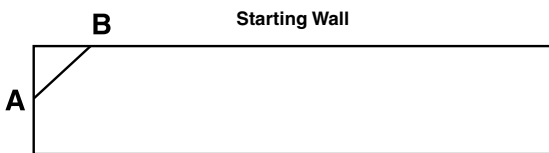

Figure 2
- 2. Establish the working line for a diagonal installation by measuring 4' to point A & B from the starting corner opposite an exit. See Figure 2.